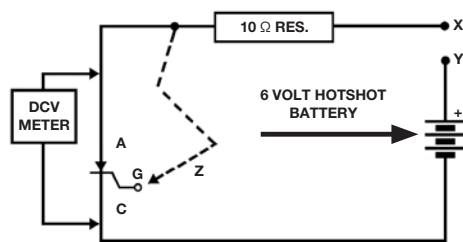

Figure 17-5 SCR Test Schematic
3. As shown in Figure 17-5, connect X to Y. DC voltage should read 6 volts. Touch wire Z momentarily to gate. DC voltage reading should drop to less than one volt. Open X-Y connection and reconnect. DC voltage reading should return to 6 volts.